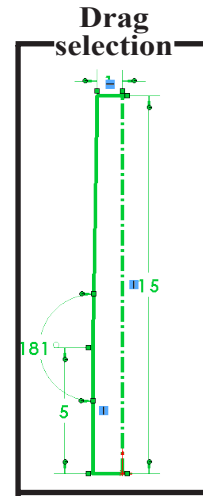

Fig. 5
Step 1. **Drag selection around the sketch** to select all entities (lines and dimensions), **Fig. 5**. To drag selection, click above and to left of sketch and drag down and to right to drag around all.